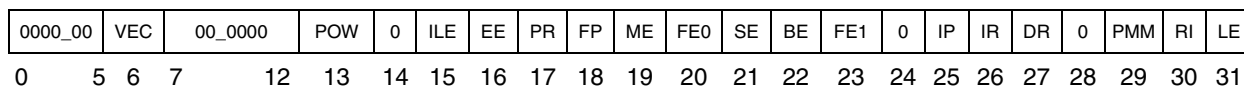

Figure 4-3. Machine State Register (MSR)
4.3, 4-10	<p>In Figure 4-3, add 0 to the 6-bit reserved field in bits 0-5 of the MSR as follows:</p>